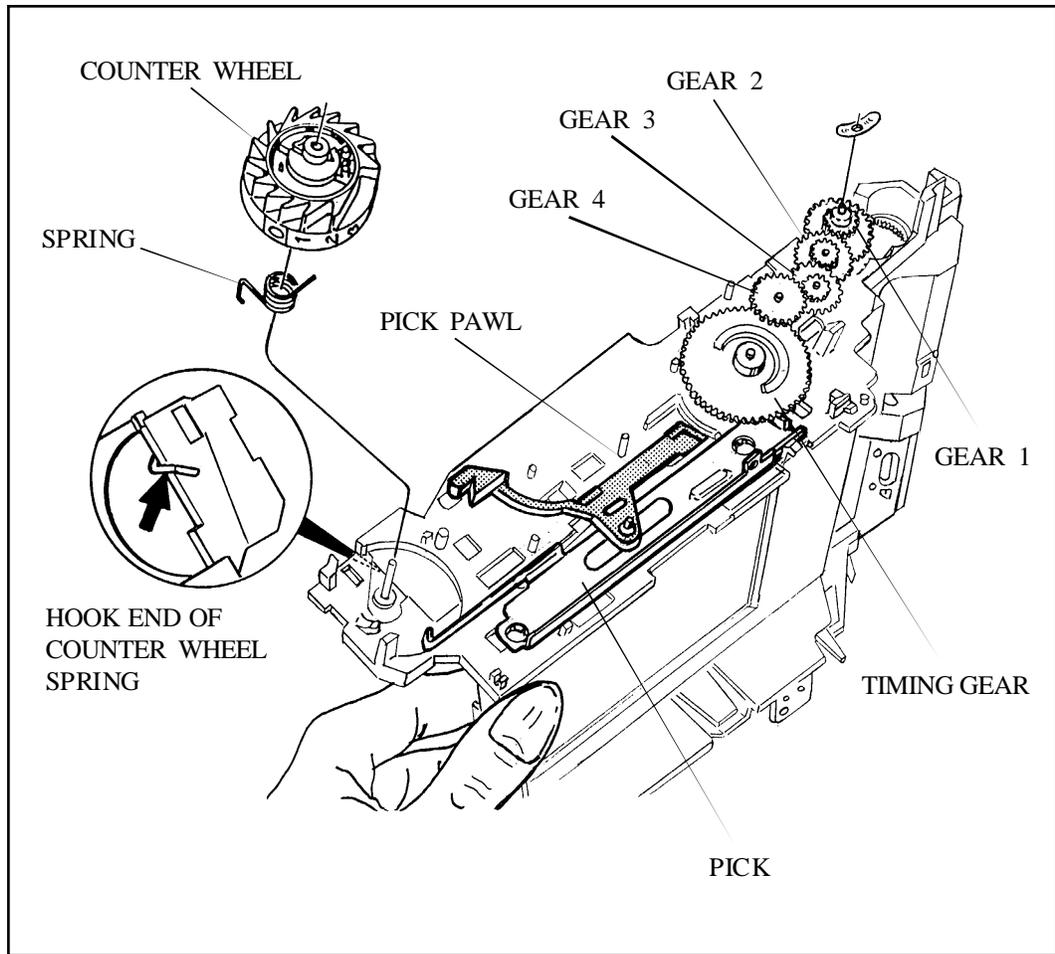

Figure 3-48. Removing Counter Wheel, Pack Pawl, Gears and Pick
- d. Carefully lift off Counter Wheel, first freeing Counter Wheel Spring hook end from Mainframe (Figure 3-48).